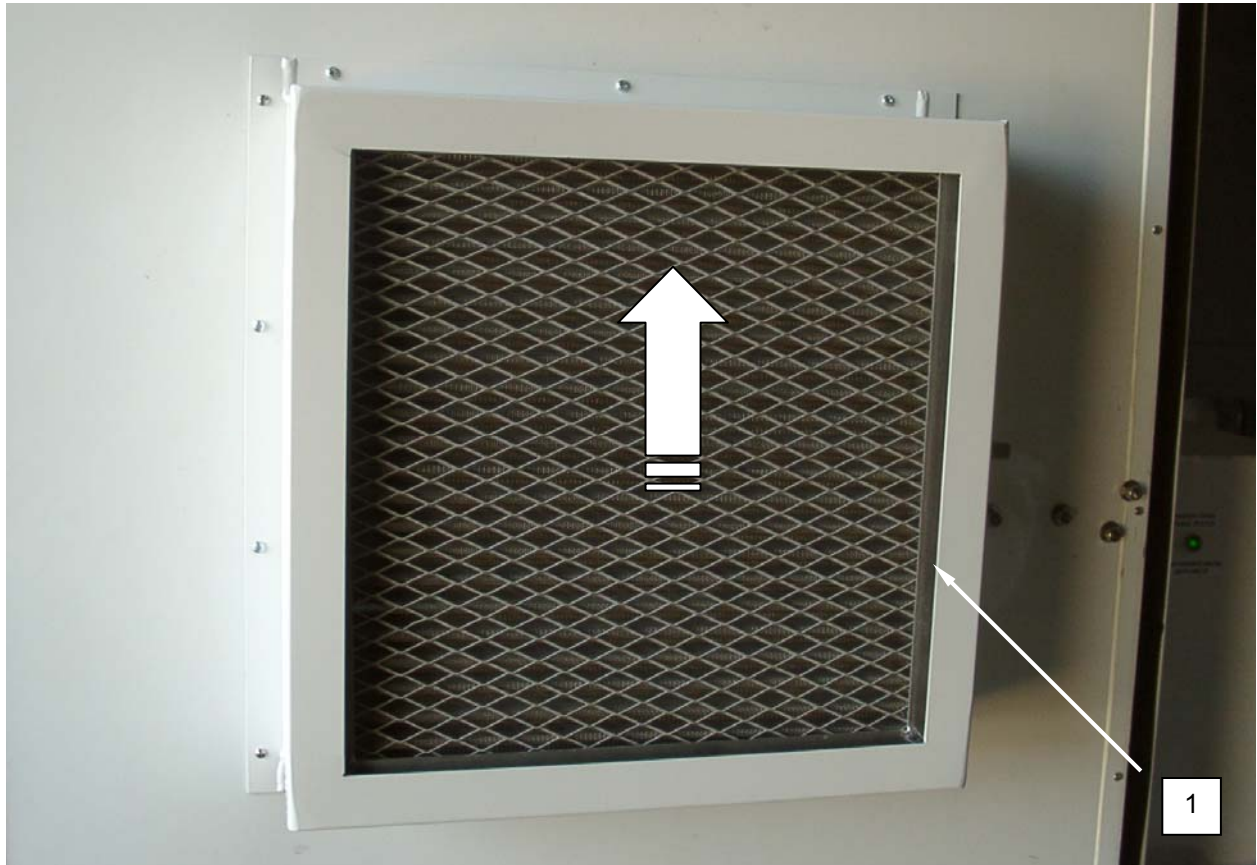

Figure 3. Replace the Door Filter.
1. Remove door filter (**Figure 3, Item 1**) from filter mount in door.
2. Install replacement filter (**Figure 3, Item 1**) into filter mount.